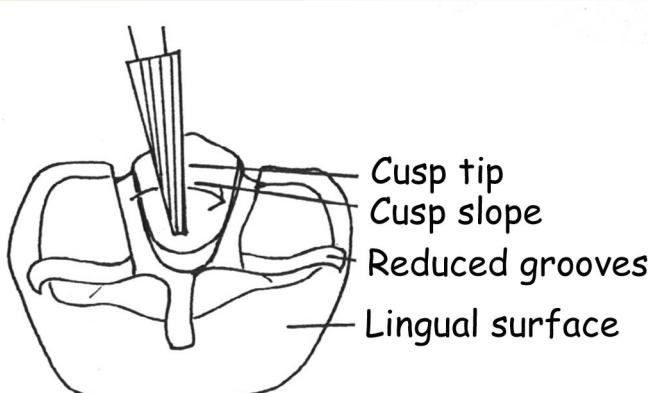

Figure 2 - Guide Cuts
2. **Occlusal reduction** – With a #699 bur or a diamond, make approximately 1.0 to 1.25 mm guide cuts in the occlusal grooves and on the cusps. Figure 2.